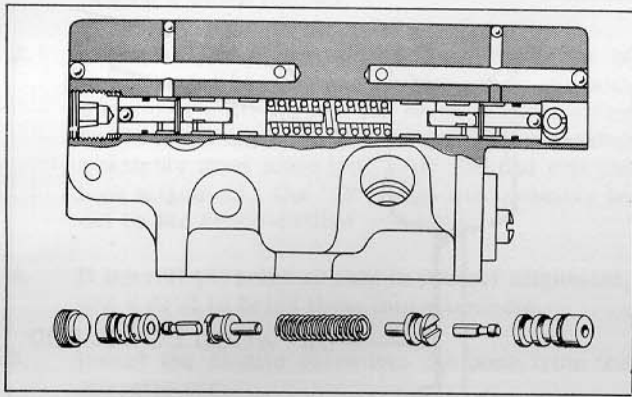

Figure 8
2. Place each kick-off valve in its respective bushing assembly bore as shown in Figure 8.
**IMPORTANT:** If the kick-off valves are installed in the bores in the reverse of the position, shown in Figure 8, the kick-off mechanism will always remain open to fluid flow. This will cause premature neutral positioning of the valve spool.